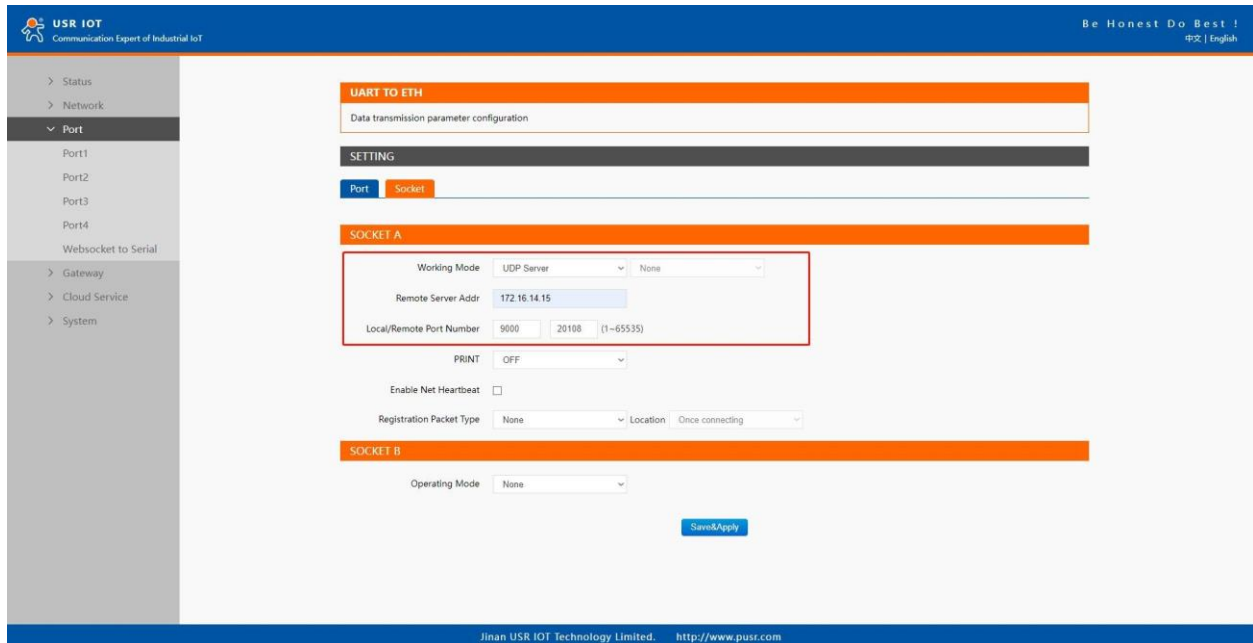

Fig.53 UDP server work mode
User Datagram Protocol (UDP) is a faster and more efficient transport protocol than TCP but it is a connectionless transport protocol, it does not guarantee the delivery of network datagram. In UDP mode, you can unicast or multicast data from the serial device to one or multiple host computers, and the serial device can also receive data from one or multiple host computers. Please beware that even though UDP provides better efficiency in terms of response time and resource usage, it does not guarantee data delivery. It is recommended to utilize UDP only with cyclic polling protocols where each request is repeated and independent, such as Modbus Protocol. When the working mode of the device is UDP server, the remote device must also work in UDP mode. You only need to specify the Local Port that USR-N5X0 should listen to. In UDP server mode, serial port data is always sent to the last peer UDP device (IP and port) that communicates with the USR-N5X0, and the USR-N5X0 can record the IP and port number only after the peer UDP device sends data to the USR-N5X0 first. Fig.53 shows an example of configuration setting for UDP Server mode under the Port1 socket page. You can configure other serial ports in the same way.
1. Click on the “Port1” tab on the menu frame on the left side of Web UI to go to Port1 page as shown in Fig.53.